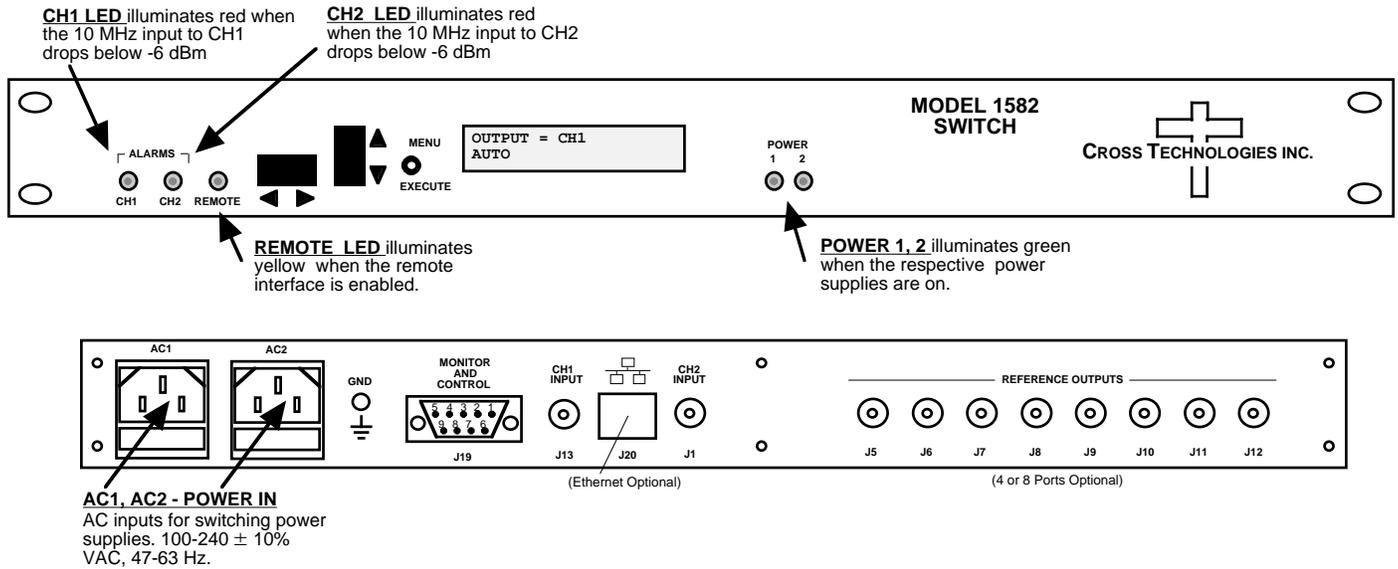

FIGURE 2.3 1582-10xx Front AND REAR Panel Controls and Indicators
7. AC Fuse - The fuse is a 5 mm X 20 mm, 2 amp slow blow (Type T) and is inserted in the far slot in the drawer below the AC input as shown in Figure 2.3. There is a spare fuse in the near slot.
This section describes operation of the front panel controls. There are three operator switches, the LCD display and alarm indicator LEDs. All functions for the equipment are controlled by these components. The functions are (see Figure 2.3):